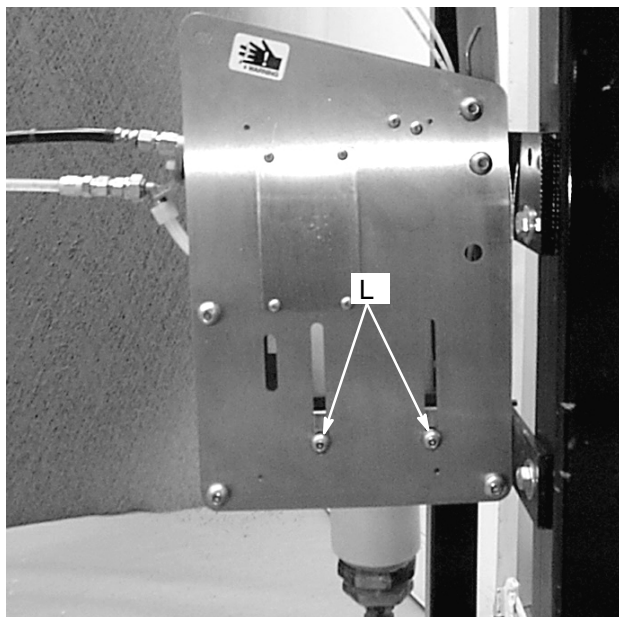

Fig. 10
3. Loosen both screws (L) on the side of the box. See Fig. 10.